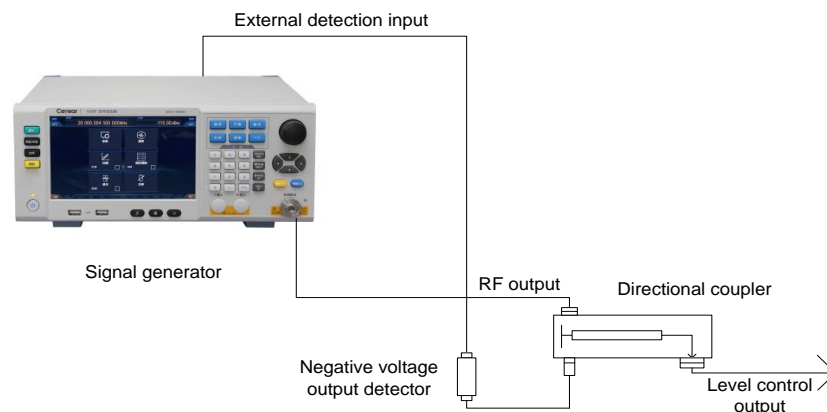

Figure 4.12 Connection block diagram of external level control measurements of ALC circuit
Figure 4.12 describes a typical setting for external level control. During external level control, the power level is fed back from an external negative voltage output detector instead of from the internal detector. The feedback voltage controls the ALC system to control the output power.
- 1) Connect the instrument as per Figure 4.12;